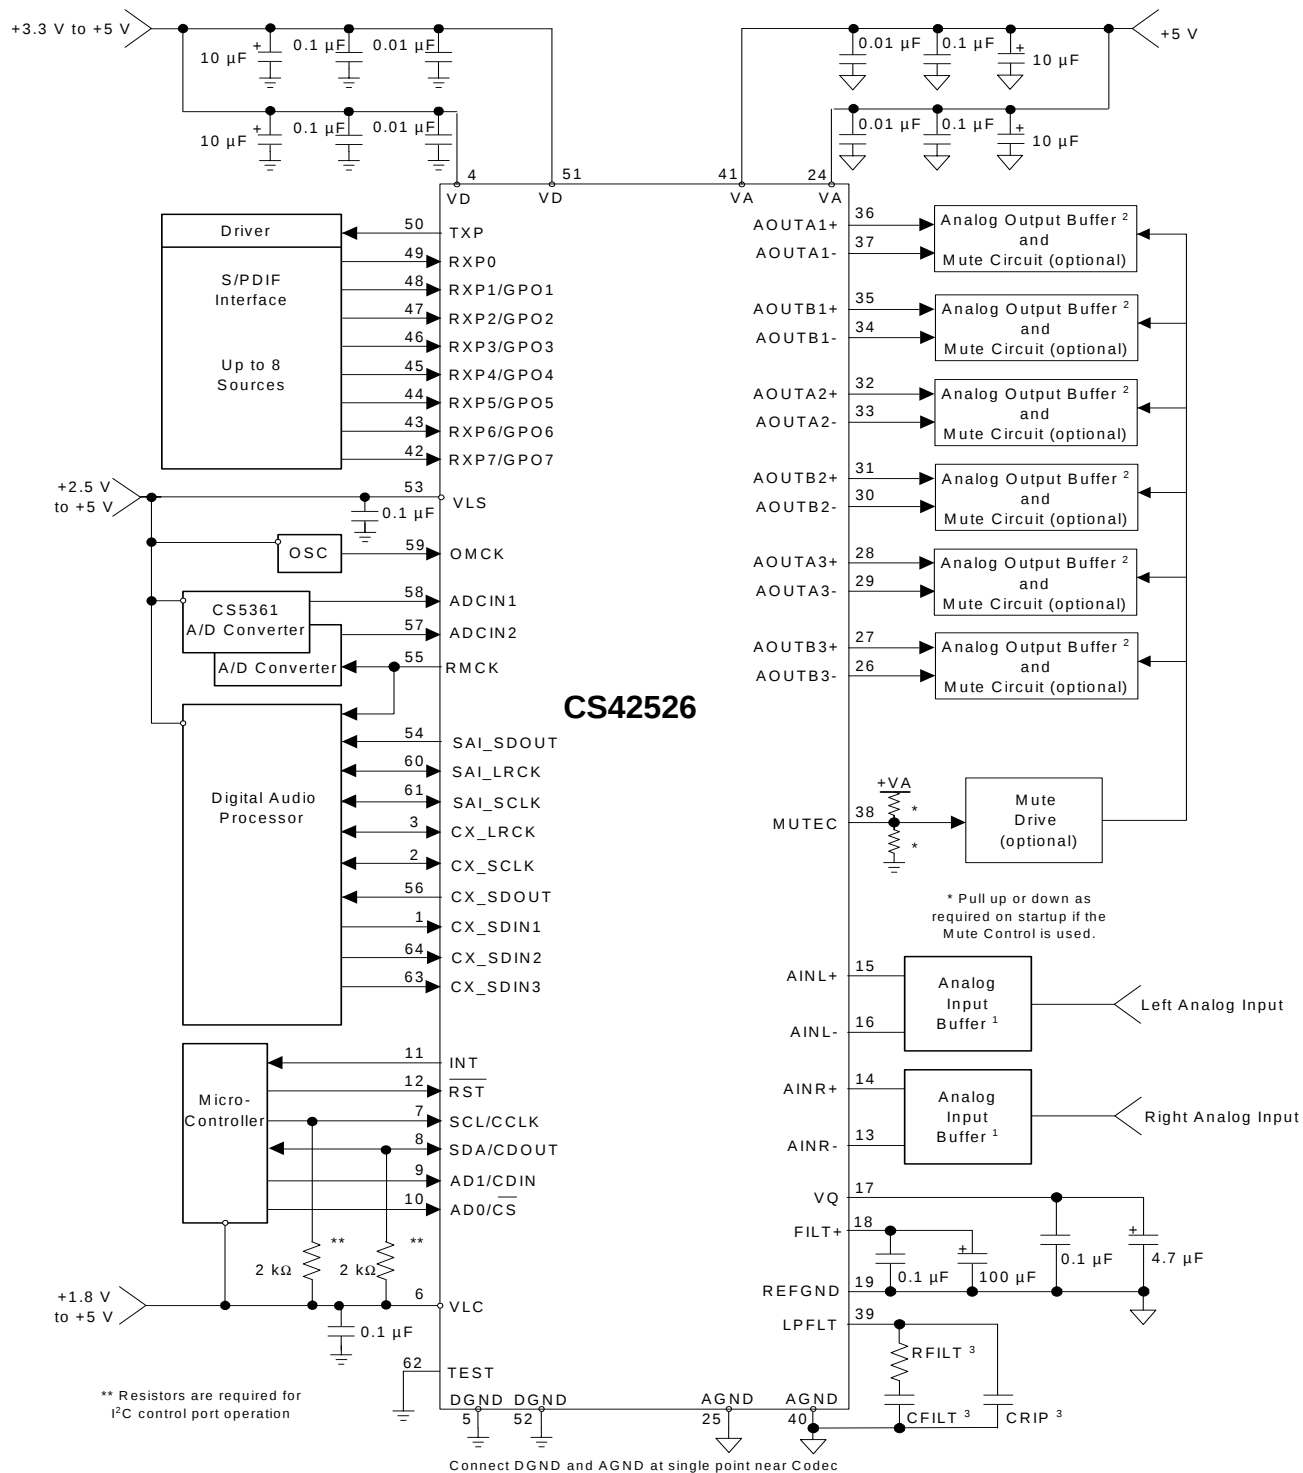

Figure 5. Typical Connection Diagram
25. Valid with the recommended capacitor values on FILT+ and VQ as shown in Figure 5.
The CS42526 is a highly integrated mixed signal 24-bit audio codec comprised of 2 analog-to-digital converters (ADC), implemented using multi-bit delta-sigma techniques, 6 digital-to-analog converters (DAC) and a 192 kHz digital audio S/PDIF receiver. Other functions integrated within the codec include independent digital volume controls for each DAC, digital de-emphasis filters for DAC and S/PDIF, digital gain control for ADC channels, ADC high-pass filters, an on-chip voltage reference, and an 8:2 mux for S/PDIF sources. All serial data is transmitted through two configurable serial audio interfaces with standard serial interface support as well as enhanced one line modes of operation allowing up to 6 channels of serial audio data on one data line. All functions are configured through a serial control port operable in SPI mode or in I²C mode. Figure 5 show the recommended connections for the CS42526.